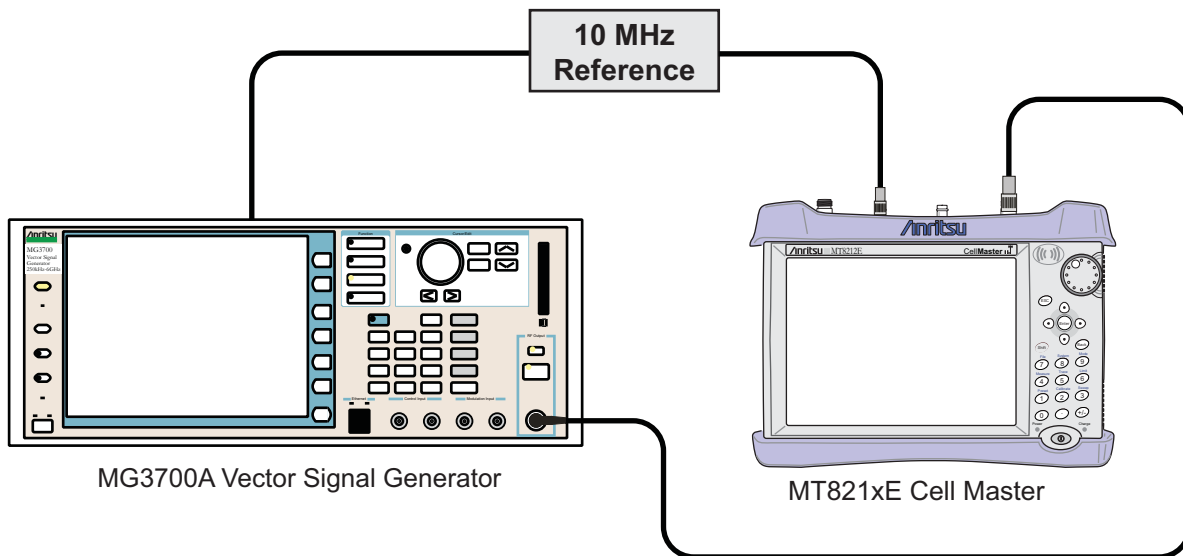

Figure 5-15. Mobile WiMAX Residual EVM and Frequency Error Test Setup
1. Connect the equipment as shown in Figure 5-15.